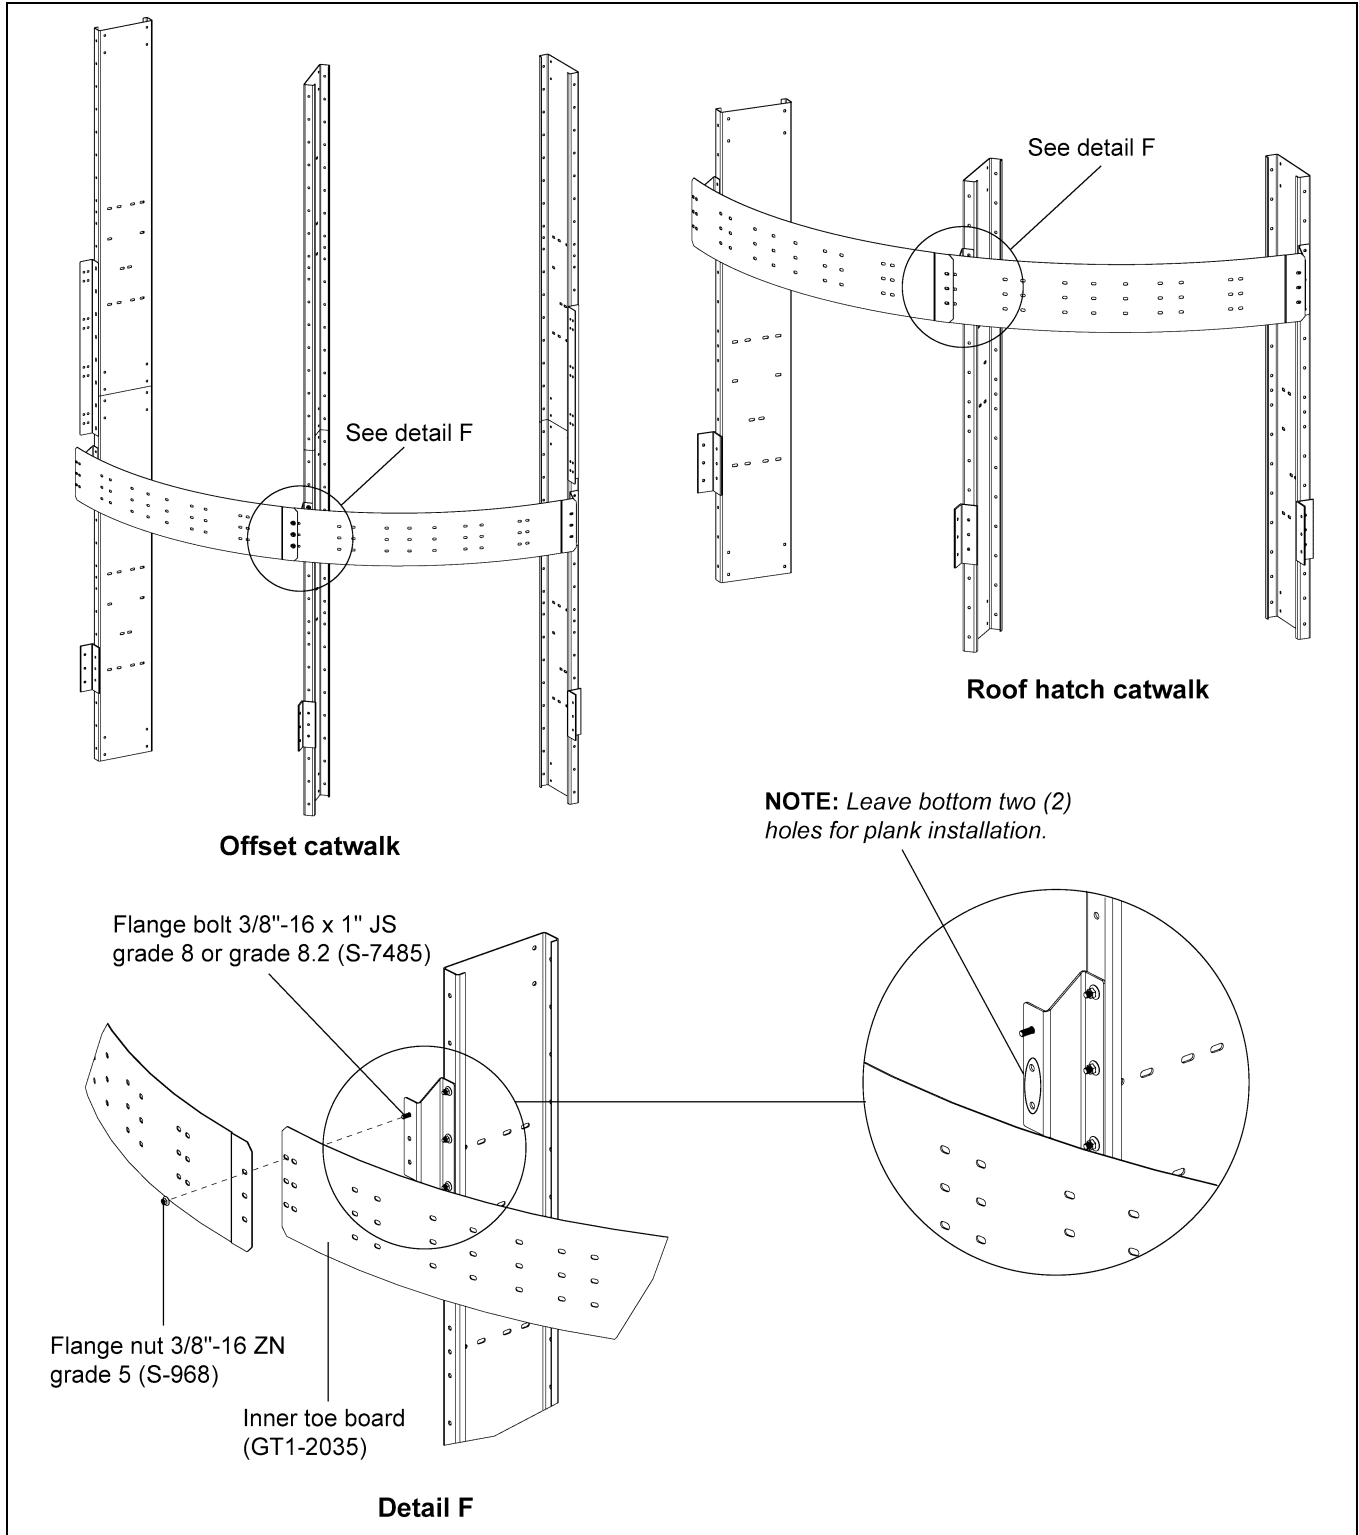

Figure 6K Inner Toe Board Installation for Offset and Roof Hatch Catwalks
1. Install the inner toe board (GT1-2035) to the Z-clips (GT1-2036). (See Figure 6K.)
2. All the toe boards should be installed between the Z-clips using 3/8"-16 x 1" JS grade 8 or grade 8.2 bolts (S-7485) and 3/8"-16 ZN grade 5 nuts (S-968). (See Figure 6K.)